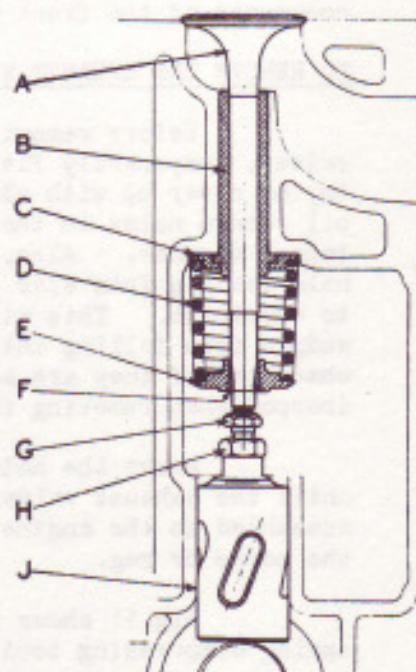

FIG. 13. ARRANGEMENT OF EXHAUST VALVE WITH BRONZE GUIDE.
NOTE: On certain early chassis, cast iron valve guides were fitted. Subsequently, bronze valve guides (B, Fig. 13) with retaining flanges were introduced together with a top washer (C).
Should this washer become dislodged when removing the valve spring, smear with grease and replace it in position as shown in Fig. 13.